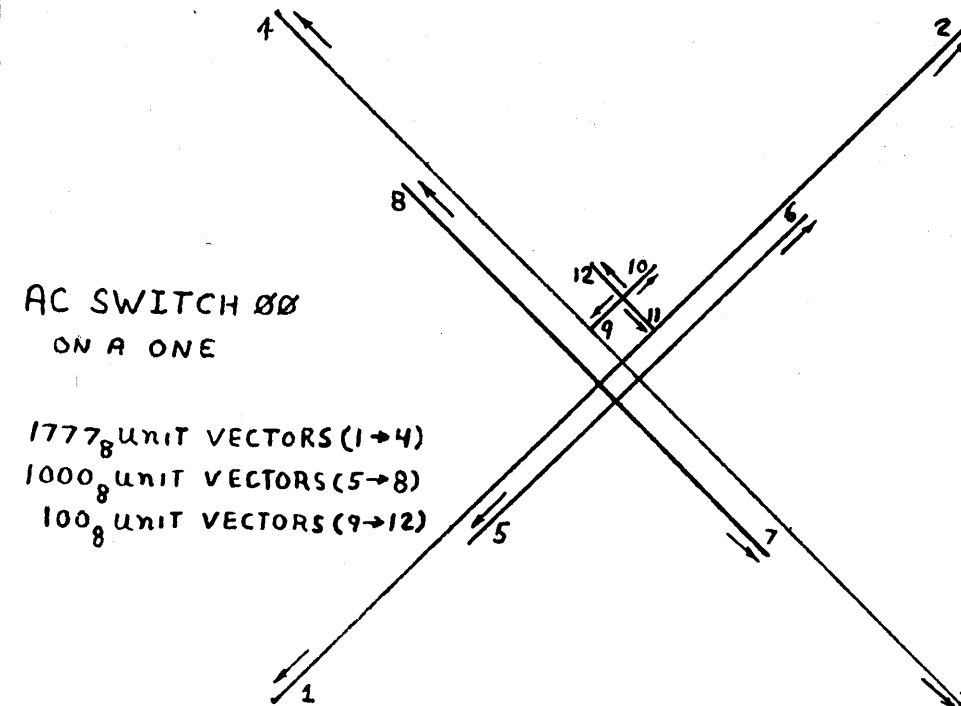

Figure 8.7.2
B. Figure 8.7.2 is on the screen when one starts the program at location 10200(8) with the AC switch 00 on a one. This picture allows one to accurately check if vectors drawn of different lengths in X pattern will show up any out of phase conditions. Possible errors can occur as follows:
- a. Figure 8.7.2 has a gain error. The largest diagonal lines (3,4) will not match but cross each other towards the center. Lines (7,8) will show smaller errors. No error in lines in (11,12).
- b. 100 (8) unit vectors are out of phase, while others are in phase. Start up unlinearity in vectors, offsets the small vector phase accuracy making it look like a simple adjustment of phase pot necessary. If adjustment is made large vectors will be out of phase.